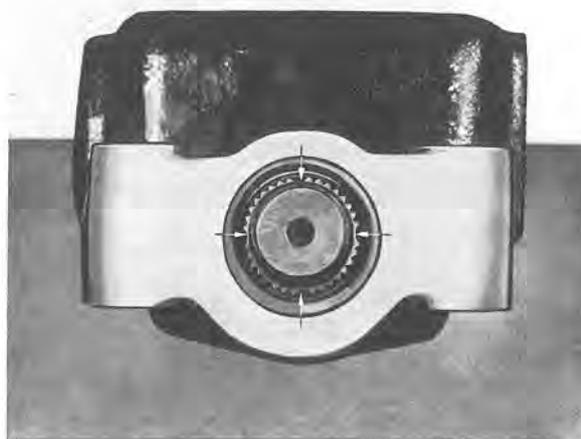

Fig. 6-60. Pitman arm shaft setting
1. Turn the steering cam to the right to the end position and then back 2½ turns. The steering gear will then be in the middle position, which can be checked on the pitman arm shaft land covers, see Fig. 6-60.
1. Place the steering box in the centre position. A slight increase in resistance should then be felt and the position of the pitman arm shaft lands should be as in Fig. 6-60 and the line-up marks on the control spindle and housing should coincide.